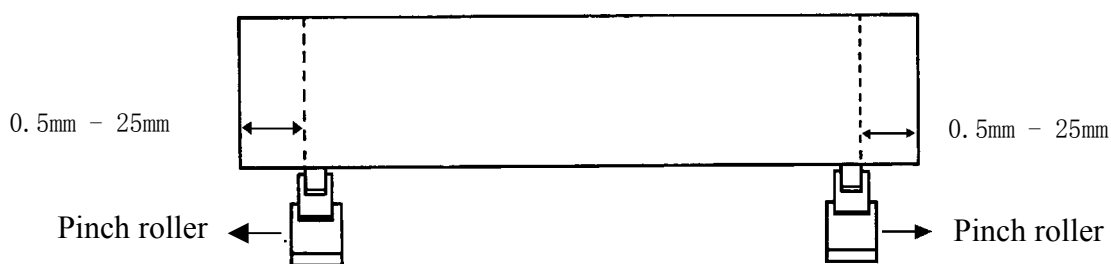

Figure 2-27
1. If the media length is less than 4 m, leave the margin of 0.5mm—25mm in the left and right edges of the media (see **Figure 2-27**).